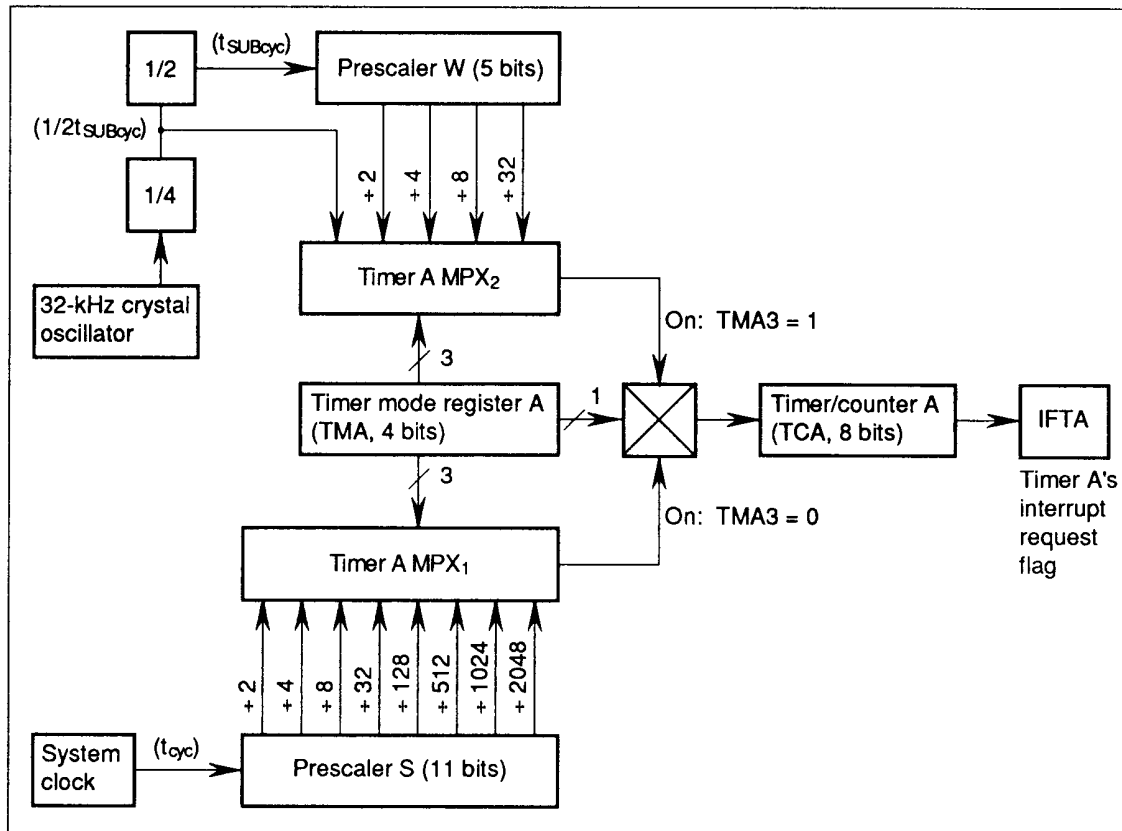

Figure 23 Block Diagram of Timer A
**Timer A:** Eight-bit timer that can be used as a clock time-base (figure 23). It is initialized to \$00 and incremented at each input clock. If an input clock is applied to timer A after it has reached \$FF, an overflow that sets the timer A interrupt request flag (IFTA: \$001, 2) is generated, and timer A restarts from \$00.